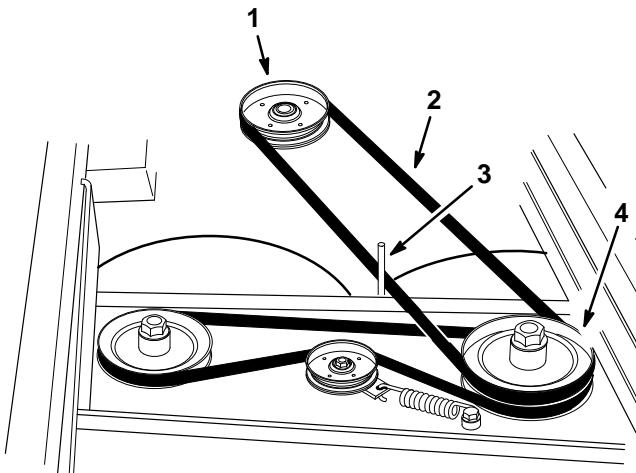

Figure 5
2. Install the drive belt around the traction unit drive pulley and the top pulley on the left spindle. The belt must be to the left of the belt guide (Fig. 5).